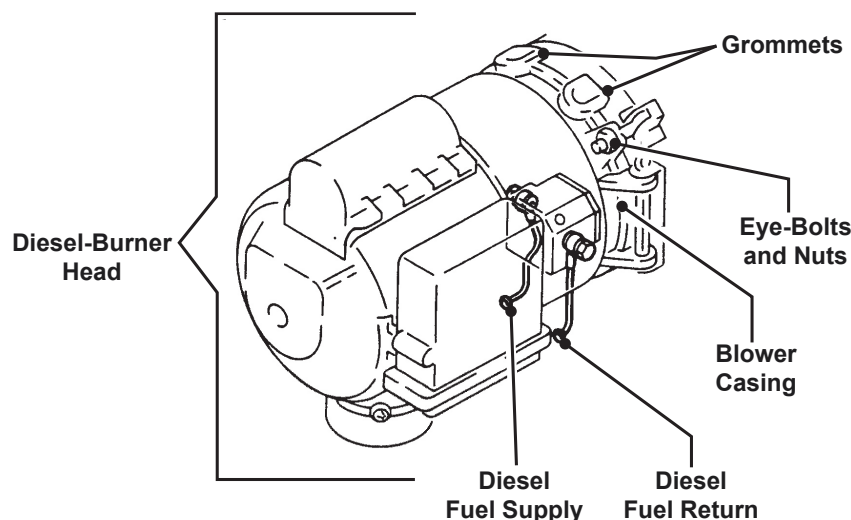

Figure 10
1. Loosen the two *Eye-Bolt Nuts* and swing the *Eye-Bolts* out of the way, reference Figure 10.
CAUTION: When reattaching the *Diesel-Burner Head*, be sure to properly align the *Diesel-Burner Head* before tightening the *Eye Bolt Nuts*. Also, visually inspect all of the rubber *Grommets* on the top and bottom of the *Diesel-Burner Head's* cast-aluminum *Blower Casing* to ensure they are in place. **DO NOT** over tighten the *Eye-Bolt Nuts* (torque specification = approx. 20-40 in. lbs.). An improper alignment and/or an over tightening of the *Eye-Bolt Nuts* can cause damage to the *Diesel-Burner Head's* cast-aluminum *Blower Casing*, reference Figure 10.